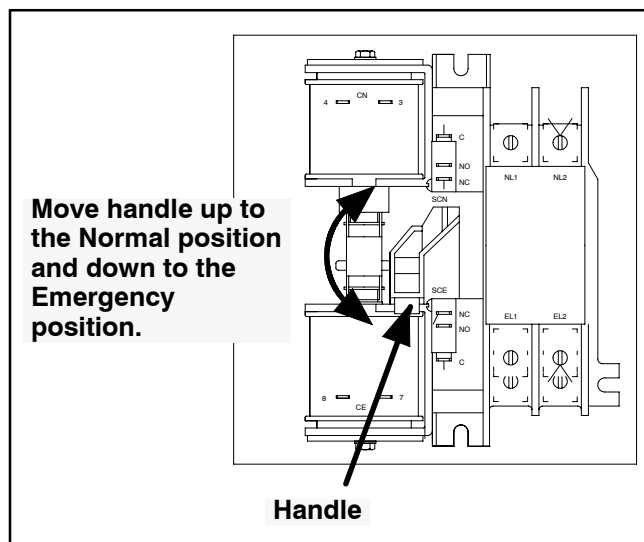

Figure 2-13 Manual Operation, 100 and 200 Amp Switches
1. Move the handle up to place the transfer switch in the Normal Source position and down to place the contactor in the Emergency Source position. See Figure 2-13.